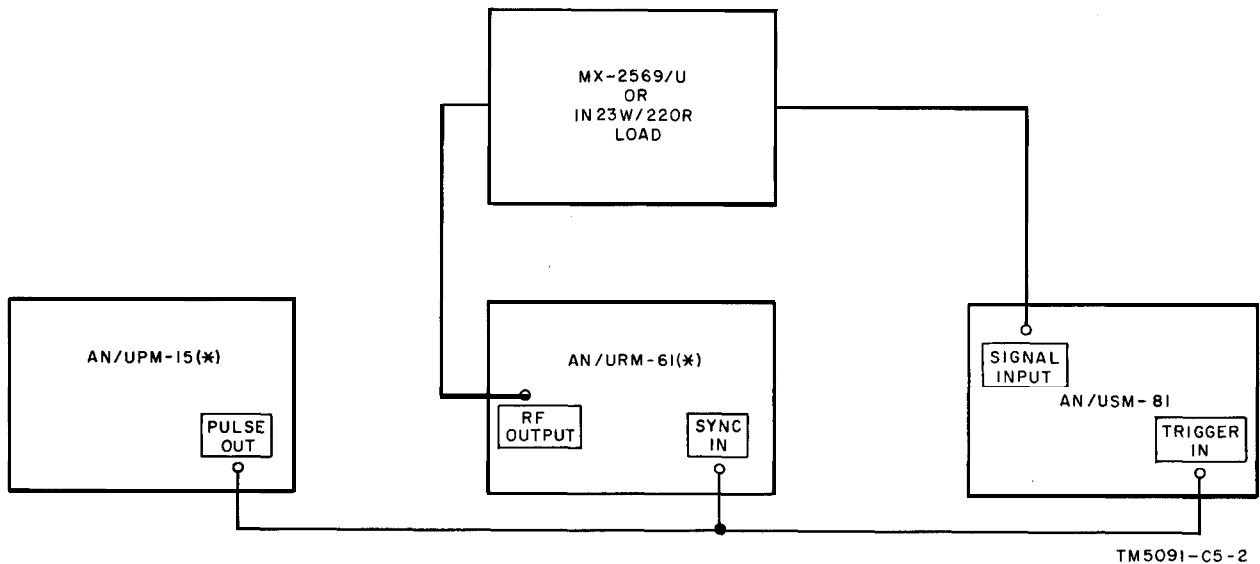

Figure 5-8.1. Pulse delay test connections.
a. Connect the equipment as shown in figure 5-8.1.
- (1) SYNC SELECTOR to POS.
- (2) Oscillator modulation selector switch to INT.
- (3) P U L S E DELAY to 5  $\mu$  sec.
Add figure 5-8.1 after figure 5-8.